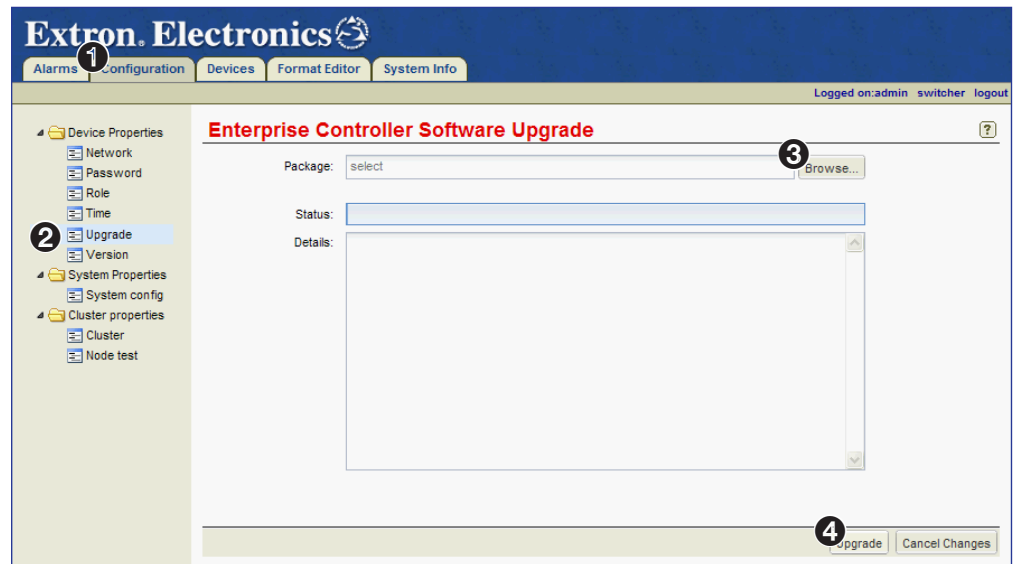

Figure 172. Configuration Page — Redundant Secondary Controller
2. Select the **Configuration** tab (see figure 172, ❶).